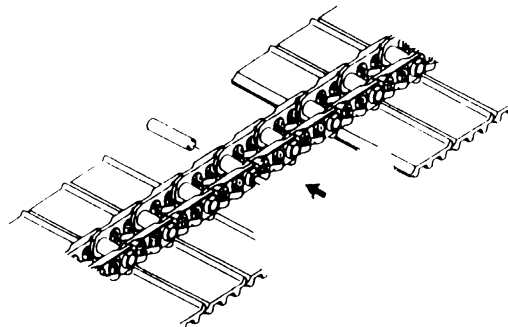

Fig 22.
- 4 Using a portable press, remove the track pins securing the link → Fig 22. \(□ J-8\).